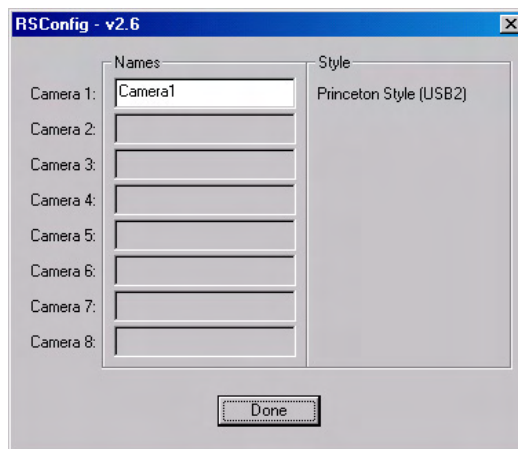

Figure 1. RSConfig dialog box
3. When the RSConfig dialog box (Figure 1) appears, you can change the camera name to one that is more specific or you can keep the default name "Camera1". When you have finished, click on the **Done** button.